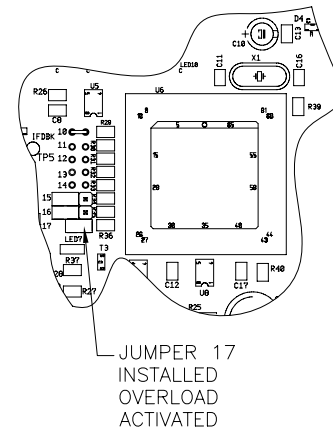

Figure 30: Jumper Location - Overload Activation
2. Place the jumper across the two (2) pins at location 17 on the main PC board (see Figure 30).
The display at the rear of the applicator also doubles as a microamp bar graph meter when high voltage is on (see Figure 30). Its function is similar to that of the control unit bar graph display.